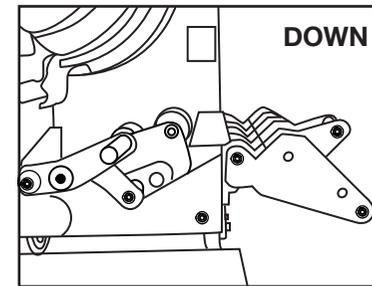

Fig 14
- A. While bending $\frac{3}{4}$ " through 2" Galvanized EMT, Galvanized IMC, or Galvanized Rigid Conduit ensure the Fixed Rigid Rollers (10) are in the upright position, as shown in (Fig 14 and 15). Fixed Rigid Rollers (10) should only be "DOWN" position to help in unloading of the conduit after a bend has been completed. Return Fixed Rigid Rollers (10) to the "UP" position once conduit has been removed in preparation for next bend.